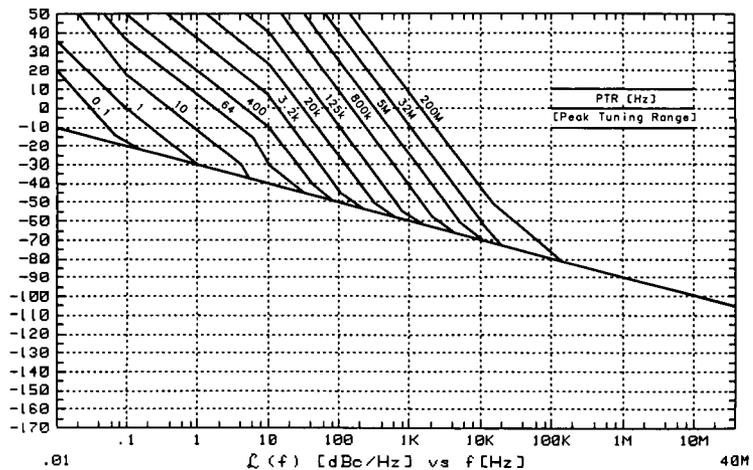

Figure 3-47. Graph Showing Peak Tuning Range Requirements for Noise that Exceeds the Small Angle Limit
10. Continue to increase the span width and compare the noise level out to 100 kHz. (If the noise level exceeds the small angle line at any offset frequency beyond the PLL bandwidth, note the offset frequency and level of the noise. Use the graph in Figure 3-47 to determine the Peak Tuning Range (PTR) necessary to provide a sufficient PLL bandwidth to make the measurement.